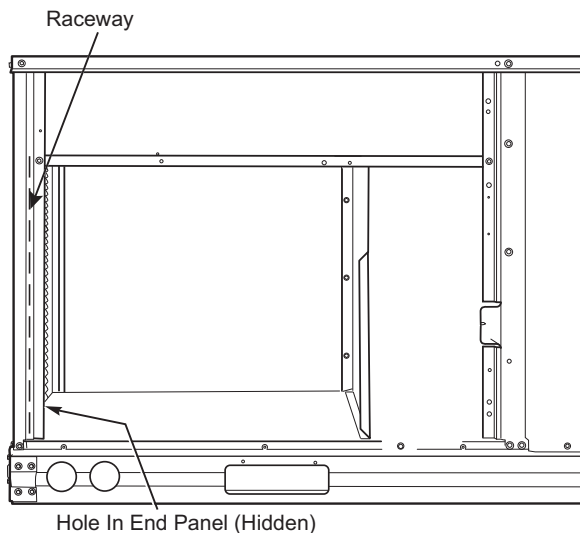

Fig. 36 — Field Control Wiring Raceway
Pass the thermostat control wires through the hole provided in the corner post; then feed the wires through the raceway built into the corner post to the control box. Pull the wires over to the terminal strip on the upper-left corner of the Unit Control Board. See Fig. 36.
2. Feed wires through the raceway built into the corner post (see Fig. 36) to the 24-v barrier located on the left side of the control box. The raceway provides the UL-required clearance between high-voltage and low-voltage wiring.